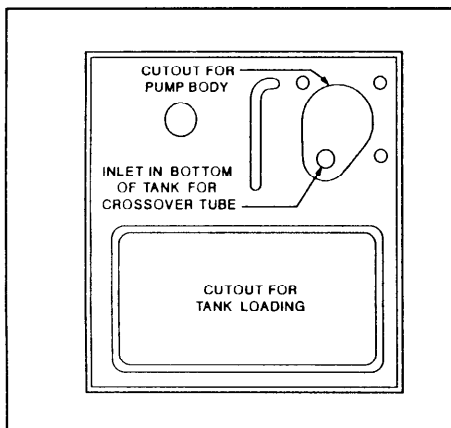

Figure 7.6
20. Pick up the pump solenoid assembly and carefully position the crossover tube of the pump into the inlet port of the manifold. Rotate the pump mount until the bolt holes for the three hex head screws line up correctly. The appropriate position of the pump body in relation to the tank walls can be determined from the cutout on the tank cover (see Figure 7.6).